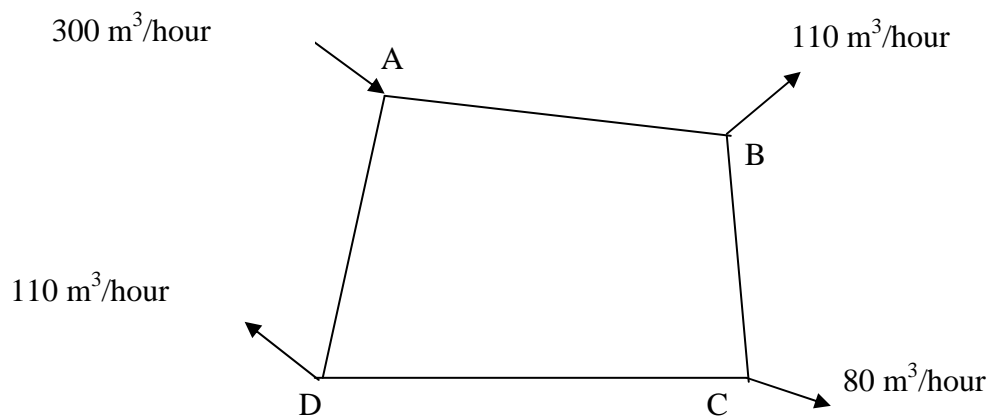

Figure 1
- (c) Figure 1 shows a reticulation system for a housing scheme. Estimate the flow rate in each pipe using Hardy-Cross and Hazen William Method up to two iterations. To start with your calculation, you are required to use an initial flow rate $100 \text{ m}^3/\text{hour}$ from point A to B. The lengths of pipes AB, BC, CD and DA are 1500m, 800m, 300m and 900m respectively. The diameters of pipes AB, BC, CD and DA are 300mm, 250mm, 250mm and 300mm respectively. Hazen-William coefficient for all pipes is 100.